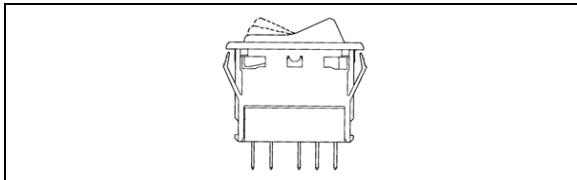

FIGURE 36: SWITCH
3. To install a new switch, reverse the procedure (fig.36).